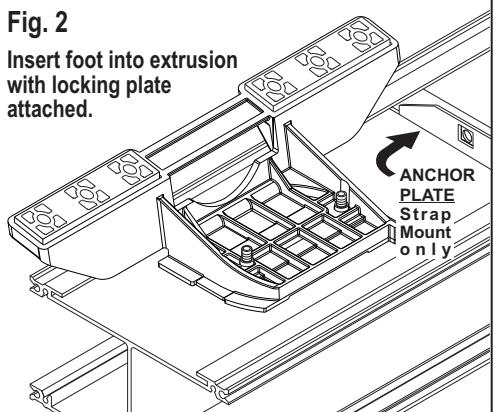

Fig. 3
- Flip the lightbar upside-down and Install an anchor plate onto the extrusion, then place a mounting foot onto the extrusion (Fig. 2). Rotate the foot 90° counter-clockwise (Fig. 3) so that both sides slide under the lip in the extrusion.